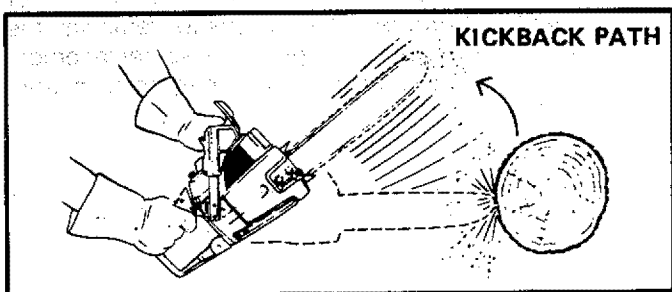

Figure 15
- Never let the moving chain contact any object at the tip of the guide bar. Figure 15.